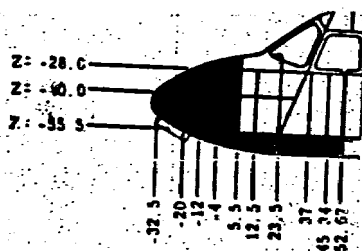

FIG. 1
1. Nose structure, nose and bottom, skins, stringers and two lower angles replaced as shown in shaded area Fig. 1 in accordance with FAR 43.13 and Aero Commander 560F Repair and Parts Manual.